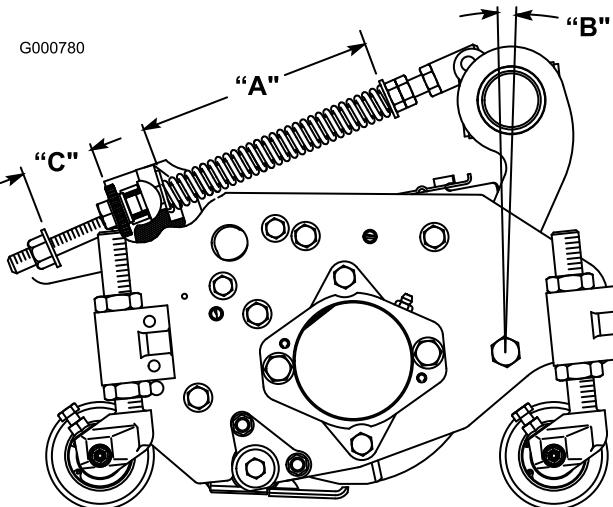

Figure 8
1. Tighten lock nut on rear of spring rod until the gap (C) between rear of spring bracket and front of washer is 25 mm (1 inch) (Figure 8).
2. Tighten hex nuts on front end of spring rod until the compressed length (A) of spring is 203 mm (8 inches) (Figure 8).
Note: When cutting rough or undulating turf, increase compressed length (A) of spring to 216 mm (8-1/2 inches) and gap (C) between rear of spring bracket and front of washer to 38 mm (1-1/2 inches) (Figure 8).
The Turf Compensation Spring (Figure 8), connecting carrier frame to cutting unit, controls the amount of fore-aft rotation